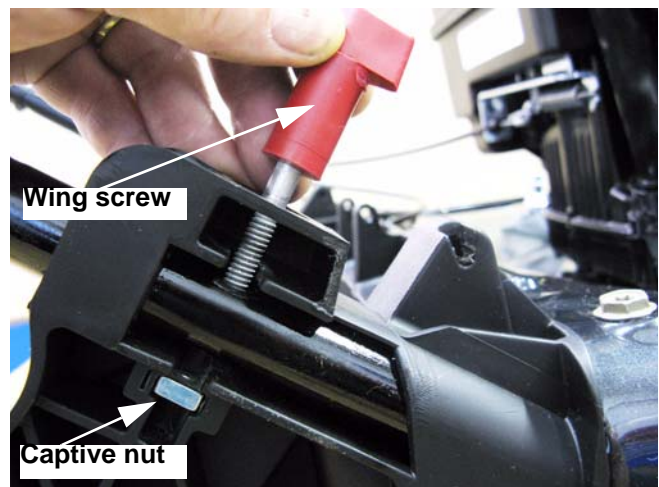

Figure 4.36
5. Remove both of the wing screws that hold the lower handlebar to the rear baffle. See Figure 4.36.